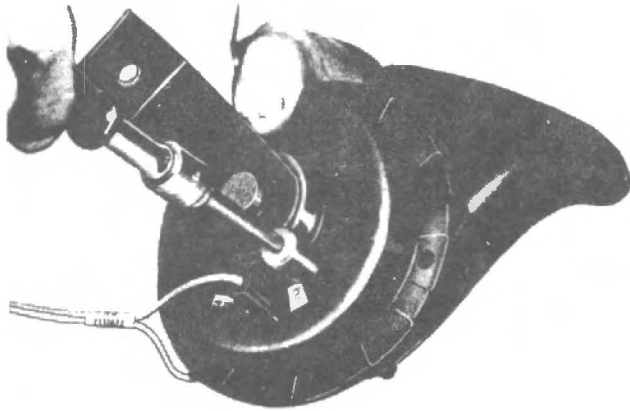

Fig. 1 - Adjusting horn (typical).
- (1) Remove the clip holding the drive link to the crank arm.
- (2) Remove bevel washer and disconnect drive link (Fig. 1).
(1) Install the connecting link, washers and retaining clips to the right and left hand pivot assemblies (Fig. 1).
(2) Install the drive link to the left hand pivot crank.